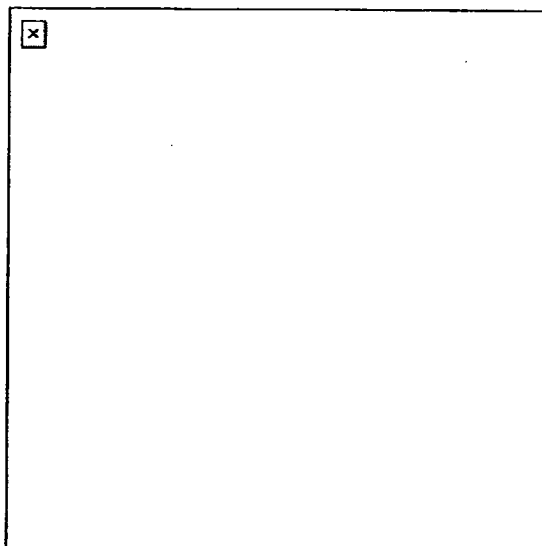

Figure 2. Climbing slope and side slope capabilities.
2. Perform resection without a compass (Figure 2).
- a. Orient your map as closely as you can using one of the ways you've learned about finding direction, compass sun, watch or stars. Then look for some feature, such a water tower (Figure 2, Point A), that you can also find on the map. Put a ruler or straightedge on the map, and place it next to the water tower symbol (Figure 2), Point B) on the map. Then align the straightedge so that it points directly at the real water tower. Draw a line along the straightedge or ruler (the line will cross the symbol for the water tower on your map).
- (2) Military vehicles are designed to climb 60-percent (30-degree) slopes if the surface is dry and firm. If gravel, vegetation, or mud is on the slope, the practical slope-climbing capability is about 40 percent (20 degrees) (Figure 2).
- (b) The side slope is more important than the climbing slope. A 40-percent side slope is the maximum in good weather (Figure 2). Traverse a side slope slowly and without turning. Rocks, stumps, or sharp turns can cause a downhill track to be thrown under the vehicle, which is a major recovery task.
- (3) For tactical reasons, movement is often in draws or valleys due to the cover they provide. Side slopes make slow movement necessary.